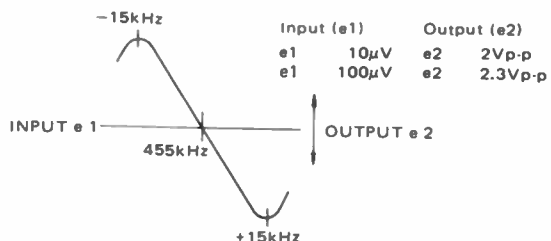

Figure 3. IF DISCRIMINATOR CURVE
Step 3: For best linearity, adjust IF Section T2, T3 so that the 455 kHz marker is in the center of the discriminator curve as shown in Figure 3.